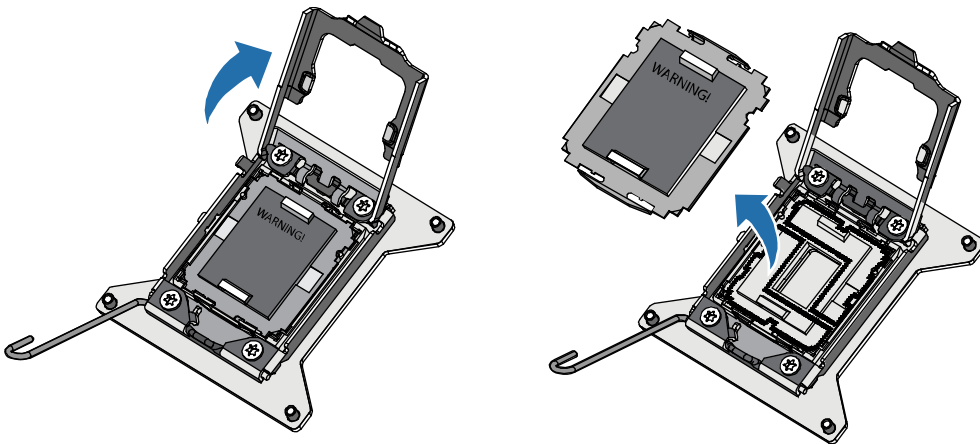

Figure 2-9 Schematic diagram for opening CPU protective cover
Step 3: Shown as the figure 2-9, please loosen the locking rod and uncover the protective cover in the arrow direction in the figure.